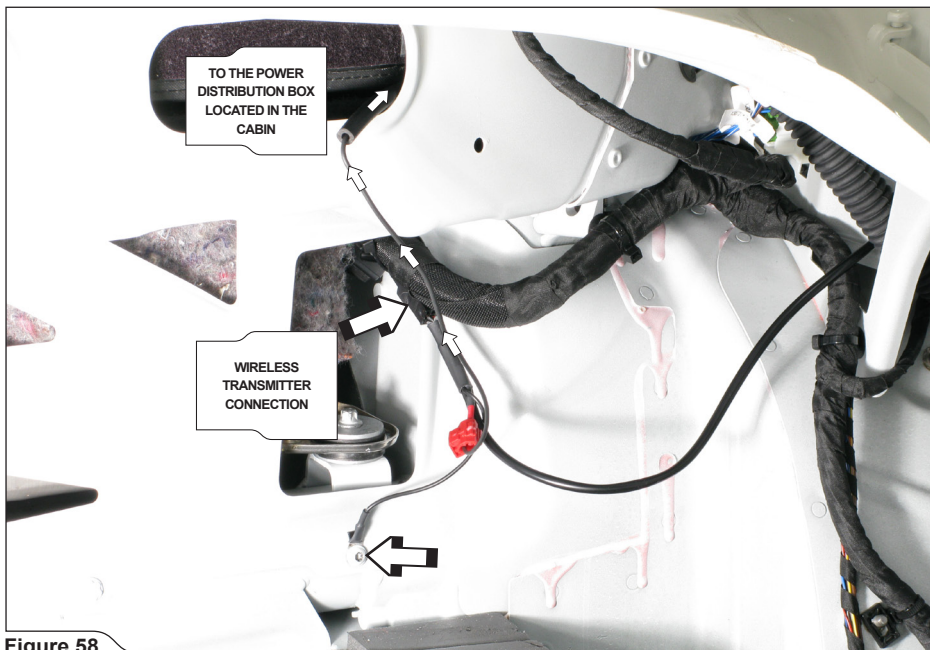

Figure 58
19. **For wireless kit installation on ROADSTER model only:** carefully direct black extending wire to the power distribution box located in the cabin, connect wireless transmitter and protect the cable and connection with heat shrinkable insulation, tighten the ground connector (black thin wire) with marked original nut and connect the transmitter's harness connector as shown **(Figure 58)**.